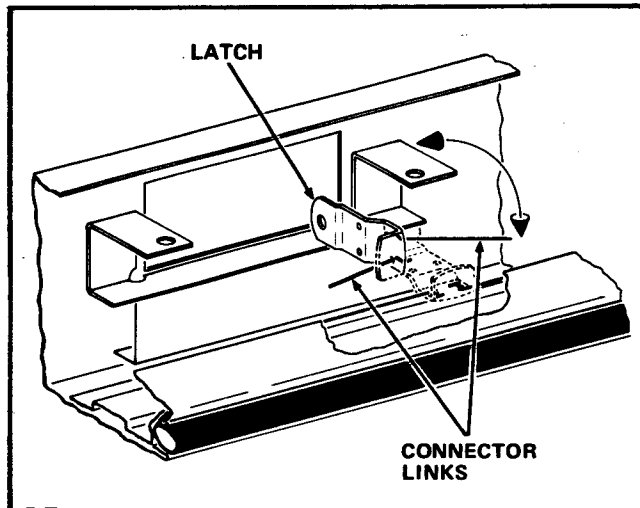

FIGURE 9
16. Rotate the Latch and carefully remove the Connector Links. See Figure 9